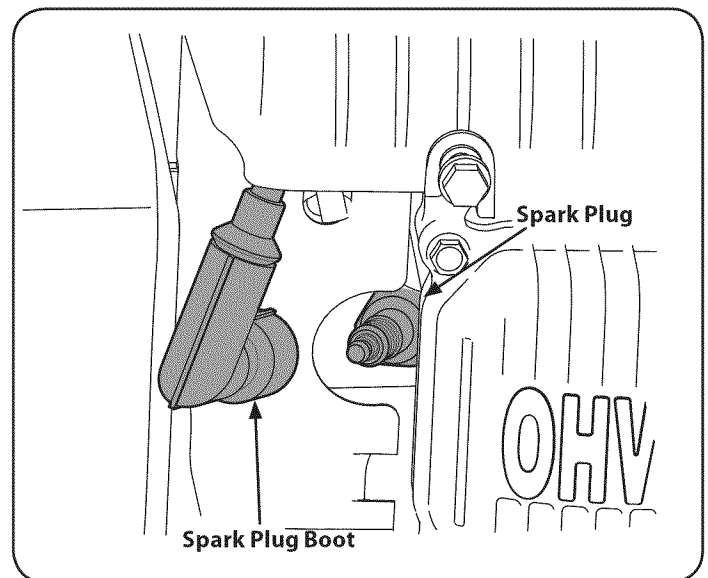

Figure 28
- Remove the spark plug boot and use a spark plug wrench to remove the plug. See Fig. 28.